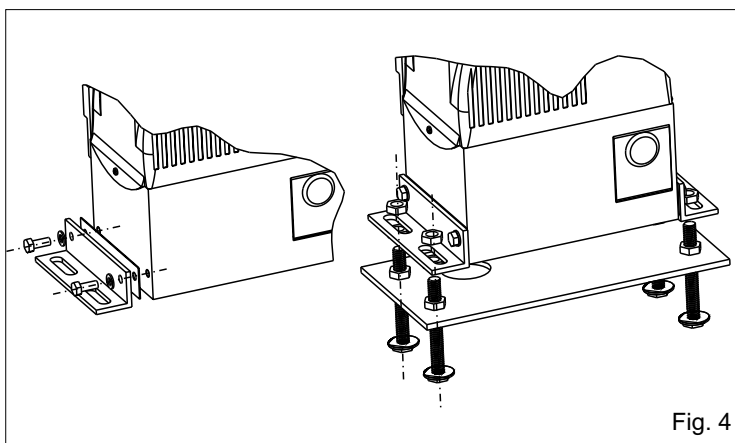

Fig. 4
**4.1.** Fix the side fixing angulars to the motor-reducer with the provided screws (Fig. 4)
**4.2.** Fix the motor-reducer to the foundation plate adjusting the side position and its height (Fig. 4 - Fig. 5) considering the mentioned measurements in Fig. 2.